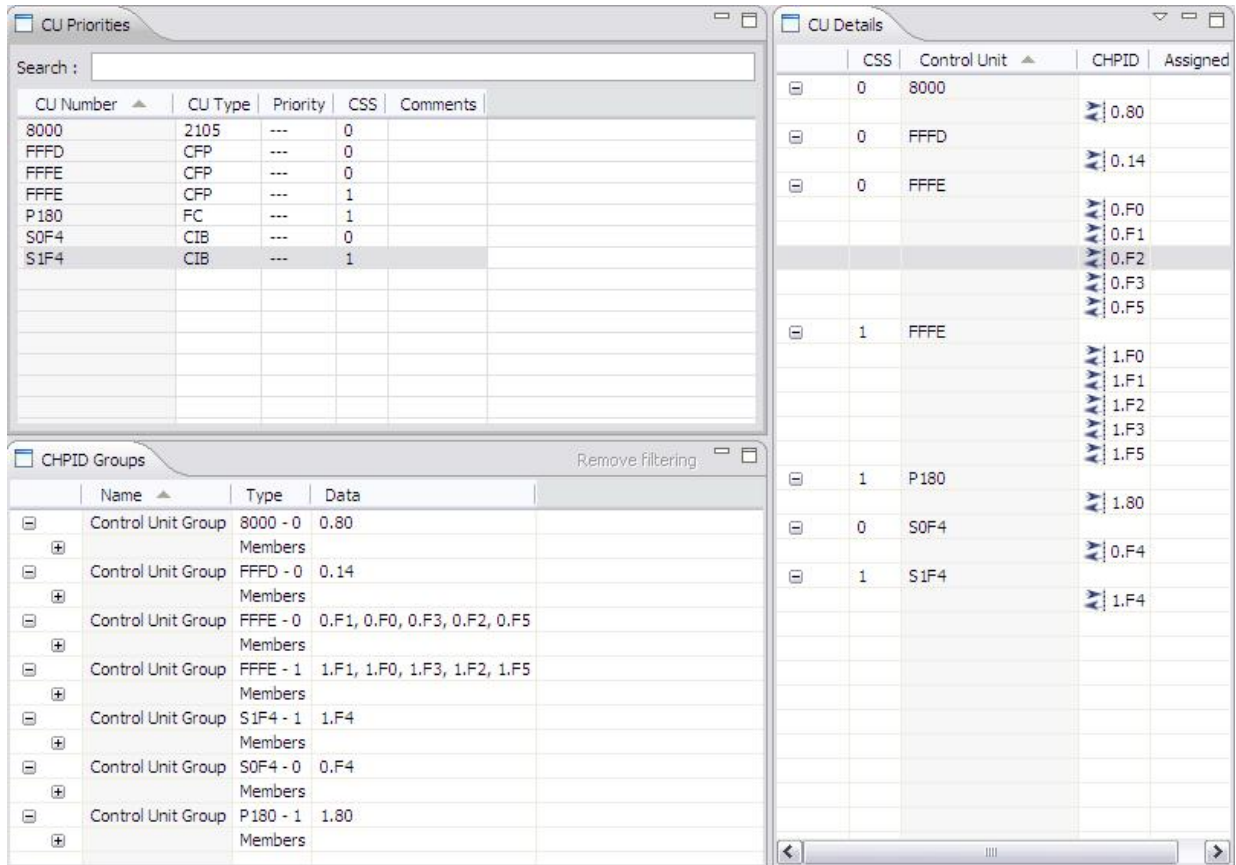

Figure 79. CU Priorities pane before assigning priorities
1. Click **CU Priorities** to open the CU Priorities view if it is not already open. Figure 79 on page 65 shows the three panes in the CU Priorities pane view. The CU Priorities pane includes a Priorities column. Before you assign priorities, this column has " - " in each row.